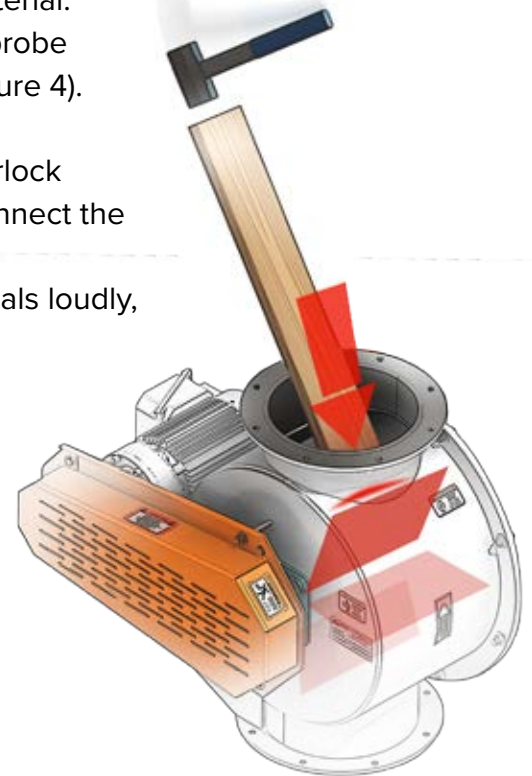

FIGURE 4
- For airlocks without the drive motor attached, use a soft probe (wood block or brass rod) and mallet to turn the rotor (Figure 4). If the rotor turns freely, the inspection is complete.